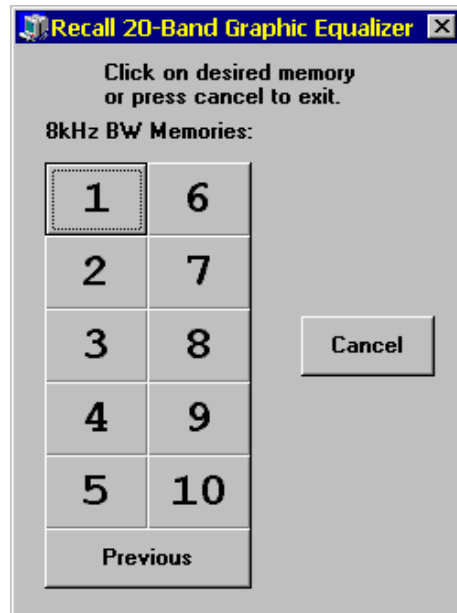

Figure 3-13 Tutorial Recall 20-Band Graphic Equalizer Window
40. Click on the **Recall** button to bring up the Recall 20-Band Graphic Equalizer window. The window in Figure 3-13 will appear.